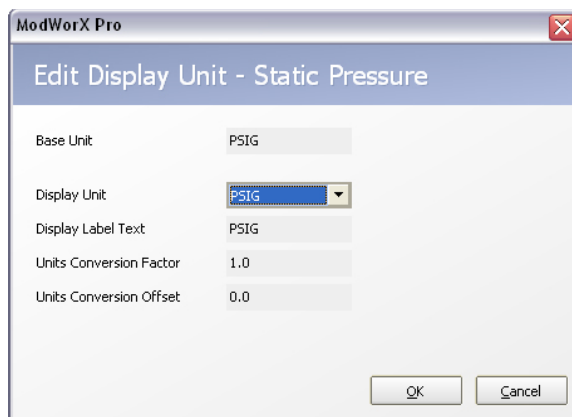

Figure 6.8
- a. Click **Edit**. The Edit Display Unit dialog will appear (Figure 6.8, page 81). The base unit is the unit in which the Scanner measures static pressure from the sensor.